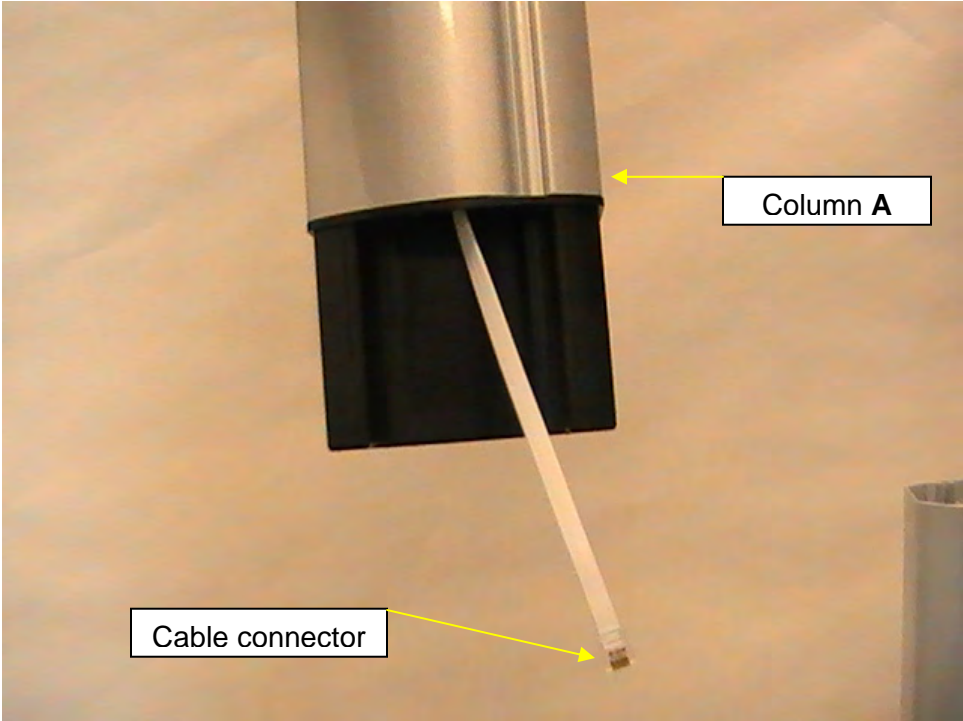

**Figure 1**
### **Assembling the 500KL Scale (Refer to Figures 1 - 10)**
1. Carefully remove the scale platform **C** and columns **A** and **B** from the carton. Place the scale platform and columns on a flat, level, and dry surface (see Figure 1).
2. Remove the 4 small screws and washers from the bottom of column **B** (see Figures 1 & 2).
3. Locate cable connector inside column **A** (see Figures 1 & 3).
4. While holding column **A**, slide the cable connector through the top of column **B**. The top of column **B** has a notch (see Figures 1 & 5).
5. Plug the cable connector into the RJ jack, located on the scale platform **C** (see Figures 1 & 4).
6. Align column **A** and column **B**. Snap the locking tab into place. Ensure that the locking tab is locked securely into place (see Figures 1 & 5).
8. Insert the 4 small screws through the bottom of the scale platform **C** screw holes and into column **B**. Ensure that washers are located between the screw heads and the scale platform **C** screw holes (see Figures 1, 6, & 7).
9. Using a Phillips head screwdriver, tighten the screws to secure column **B** to the base of the scale platform **C** (see Figure 1, 6, & 7).
10. Locate the upper height rod **D** and lower height rod **E** from the carton (see Figure 1).
12. Position the bottom of the fully assembled height rod into the height rod opening **G** at the top of the upper column **A**. Press locking tab **F** inward to insert the height rod into the height rod opening **G** (see Figures 1 & 10).